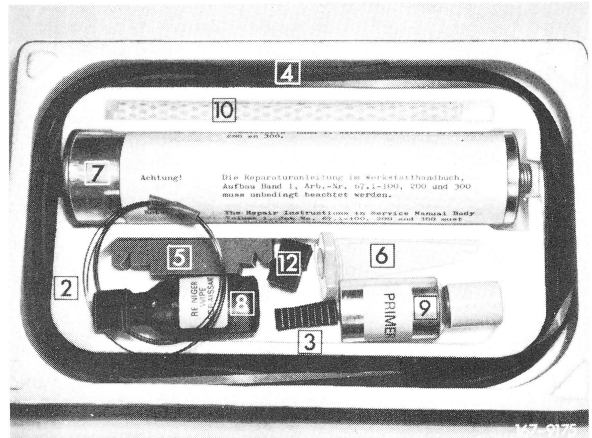

Fig. 8
13 Coat channel with cleaner (8) from repair kit (Fig.8).